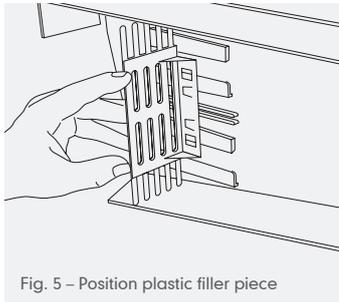

Fig. 5 – Position plastic filler piece
- Slide the plastic filler piece onto the internal rails of the dry verge. The filler piece prevents the ingress of birds and insects and will position onto the two middle rails. Engage and slide the filler piece until it clicks into place, approximately half way down the internal rails. Please note that the filler will only engage if it is the correct way round, as illustrated in Fig. 5.